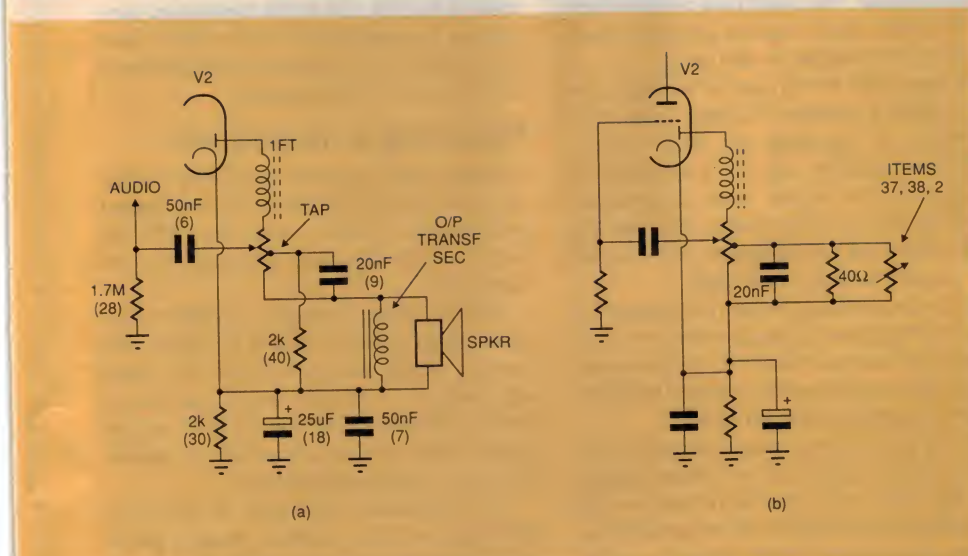

Fig.3: The bass boost sections of Fig.2, redrawn to help explain the function of the various components.
Fig.3(a) shows the re-drawn bass boost circuit of the KM. Hopefully you can see how the basic circuit now resembles Fig.1(c), especially when you realise that because the speaker voice coil and output transformer
Now let's redraw the circuit in Fig.1(b), this time as Fig.3(b). In place of the variable resistance across the capacitor designated C2 are components (2), (37) and (38), from the Astor circuit. Now this is where the components (2), (37) and (38) can be seen to play their vital role.